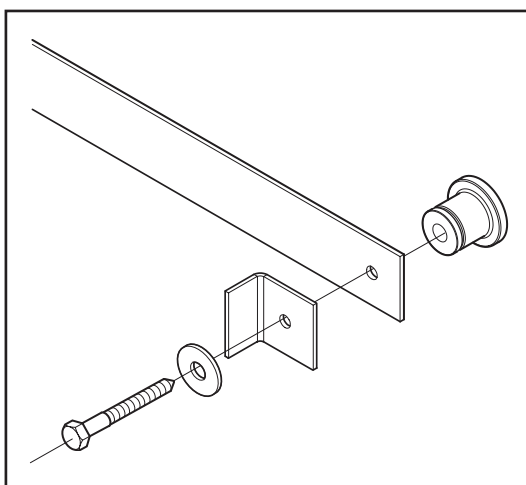

Figure 4
7. Attach one end of the track to the wall with one hard or soft stop, one lag screw, and one washer (provided) using a socket wrench with 9/16" socket (Figure 4). Do not tighten.